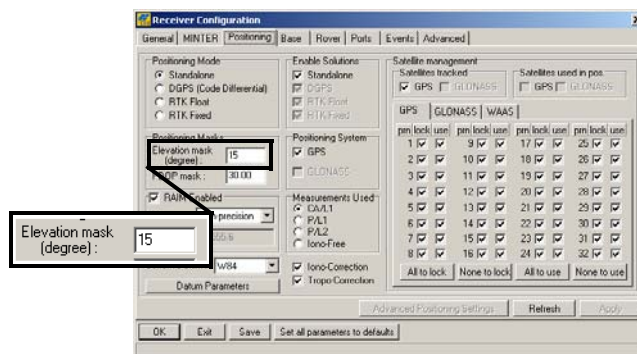

Figure 3-7. Configure Receiver Positioning – Elevation Mask
8. Click the **Positioning** tab and set the Elevation mask parameter to 15 (Figure 3-7), then click **Apply**.
4. Click the *Positioning* tab and set the *Position Masks, Elevation mask (degrees)* parameter to 15 (Figure 3-7 on page 3-10).